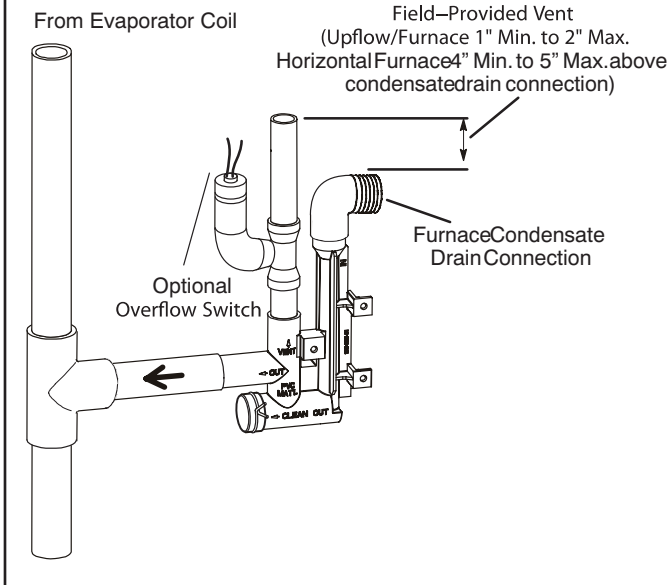
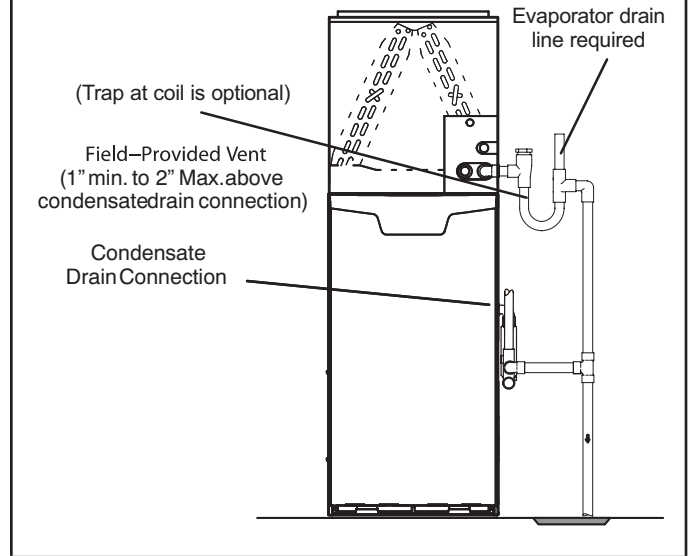

FIGURE 51
FIGURE 52
- 5 - FIGURE 49 and FIGURE 50 show the furnace and evaporator coil using a separate drain. If necessary the condensate line from the furnace and evaporator coil can drain together. See FIGURE 51, FIGURE 52 and FIGURE 53. **Upflow furnace (FIGURE 52)** - In upflow furnace applications the field provided vent must be a minimum 1" to a maximum 2" length above the condensate drain outlet connection. Any length above 2" may result in a flooded heat exchanger if the combined primary drain line were to become restricted.